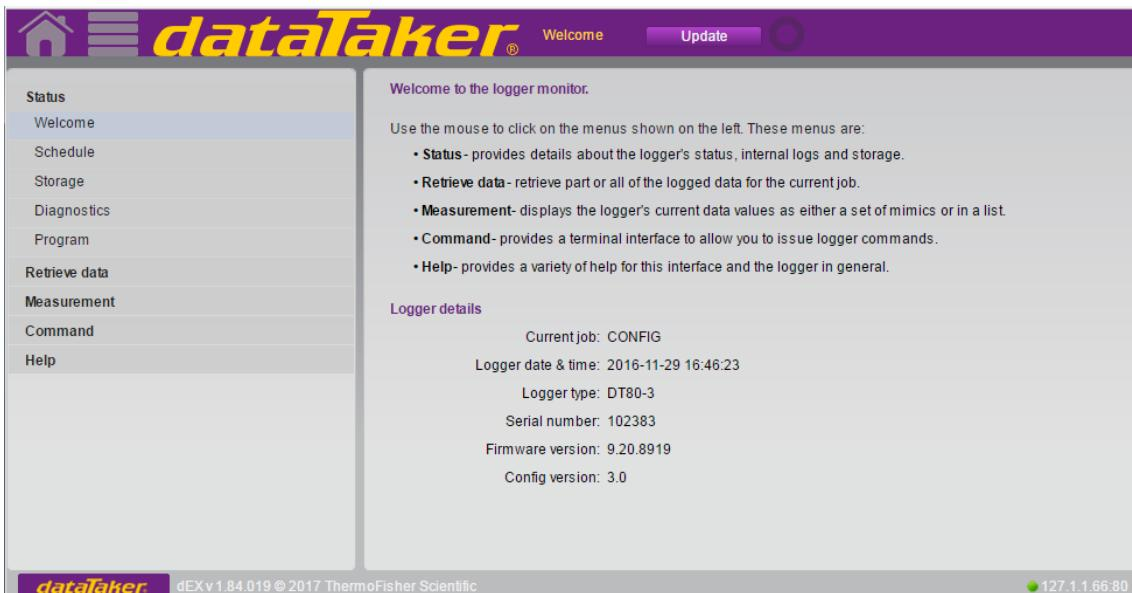

Figure 49: Welcome Screen
- Note:** By using the web interface configuration tool, it is possible to disable or restrict some of the menu options. The sample displays shown in *Figure 49* and throughout this section assume that all options are available (which is the factory default).
The **Welcome** screen, as shown in *Figure 49*, is the first screen displayed when the web interface is started. It includes the following basic information about the connected logger: